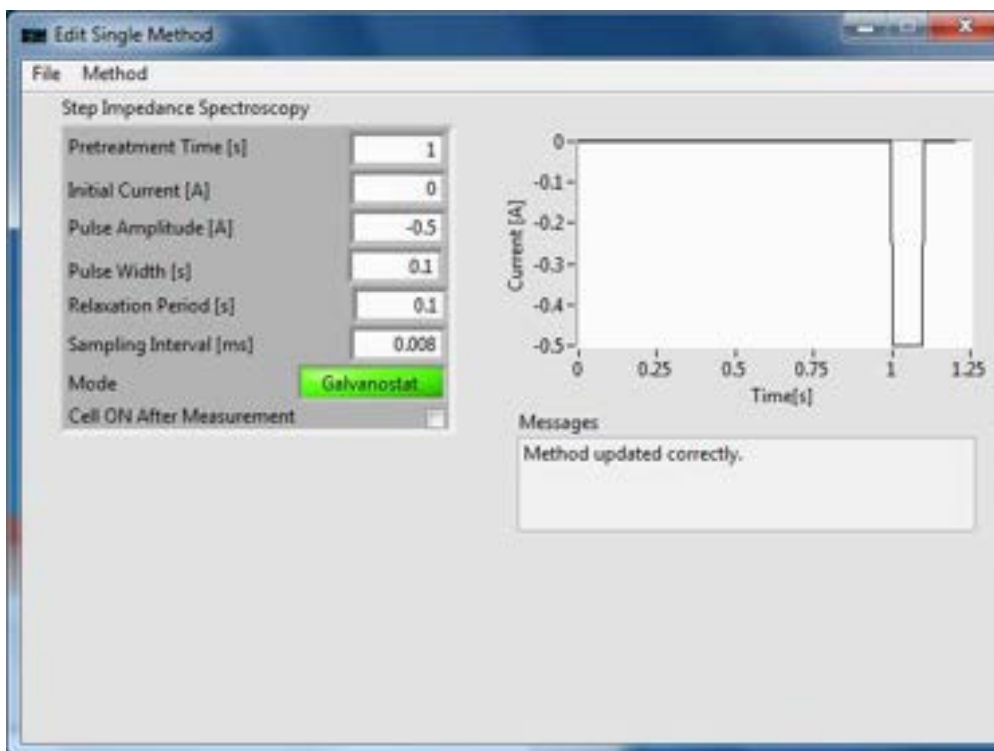

**Figure 21.** Normal Pulse Voltammetry recipe editor
- For normal pulse voltammetry, go to [NuVant EZware] **Technique**→*Pulse Techniques*→Normal Pulse Voltammetry. [Edit Single Method] shows the input boxes for **Normal Pulse Voltammetry** (Fig. 21).